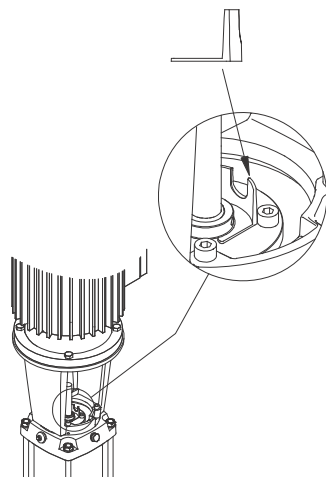

Fig. 19 Coupling adjustment CR, CRN 32, 45, 64, 90, 120, and 150
2. Place the plastic adjusting fork under the cartridge seal collar. See fig. 19.